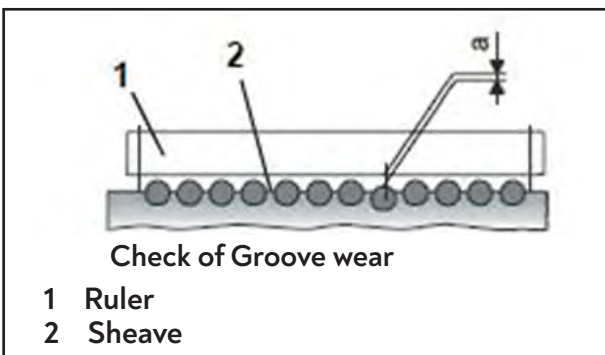

Figure 3: A ruler or other straightedge can be used to check rope depths within sheave grooves.
- ◆ Reviewing the ropes to ensure none sits lower in the sheave groove. If one does, it could indicate either improper rope tensioning or damage to a sheave groove (Figure 3).